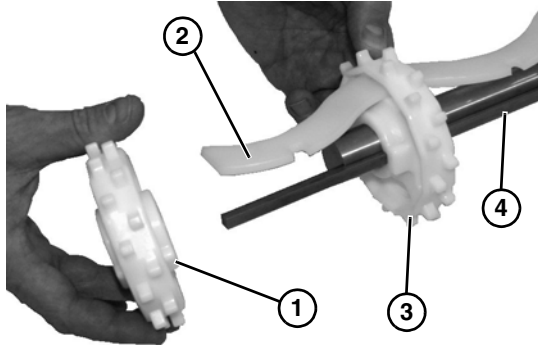

Figure 59
- Slide entire sprocket assembly slightly outward, and remove the first sprocket (**Figure 59, item 1**) off the drive spindle and alignment bar. (**Figure 59, item 2**).
- Remove remaining sprockets (**Figure 59, item 3**) off the alignment bar as you slide entire assembly off the drive spindle (**Figure 59, item 4**).